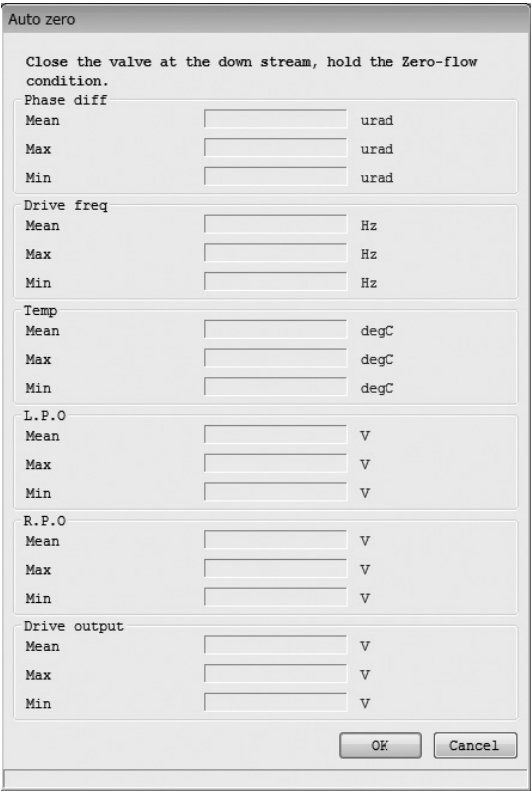

Fig.140
- ① Click the "Diag/Service (T)" menu, and then select and click "Auto zero" from the "Calibration" drop-down list.
- ② The following window will be displayed (Fig. 140). Click the "OK" button after completely stopping the fluid.